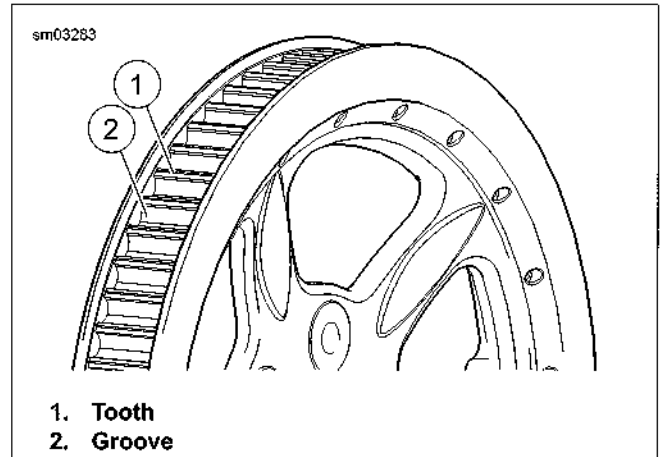

Figure 1-22. Rear Sprocket
1. See Figure 1-22. Inspect each tooth (1) of rear sprocket for:
2. To check if chrome is worn, drag with medium pressure a scribe across bottom of a groove (2).